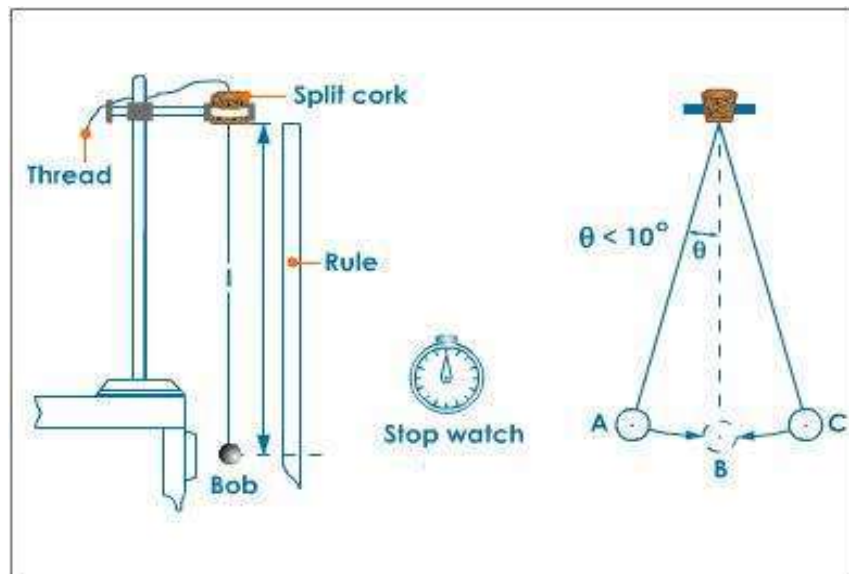

Figure 1. Experimental set-up
1. Tie the hook of the bob on one end of a thread (about 1 meter). Clamp the other end firmly between the gaps of a split cork which is fixed to the clamp of the retort stand as shown in the figure 1.